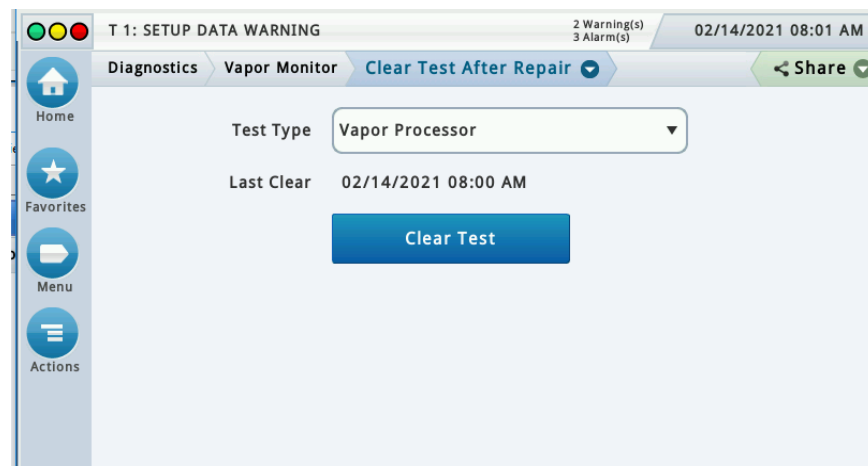

Figure 32. Last Clear Field Updates
6. The date and time in the Last Clear field updates (see Figure 32).